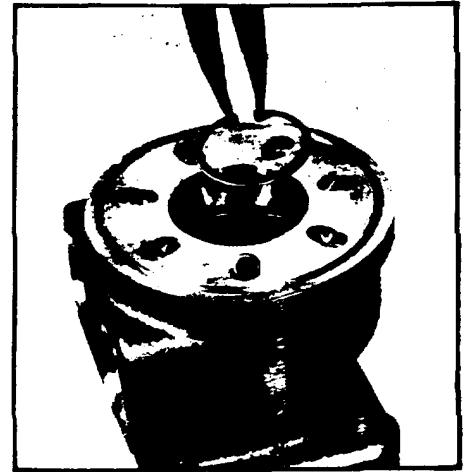

Figure 31
3. If the housing (15) has been completely disassembled, place the housing, mounting flange end down, on a clean work surface. Install retaining ring (18) into the housing retaining ring groove. Be sure the rounded edge of retaining ring is facing in toward the larger housing cavity. Use appropriate retaining ring pliers. SEE FIGURE 31,